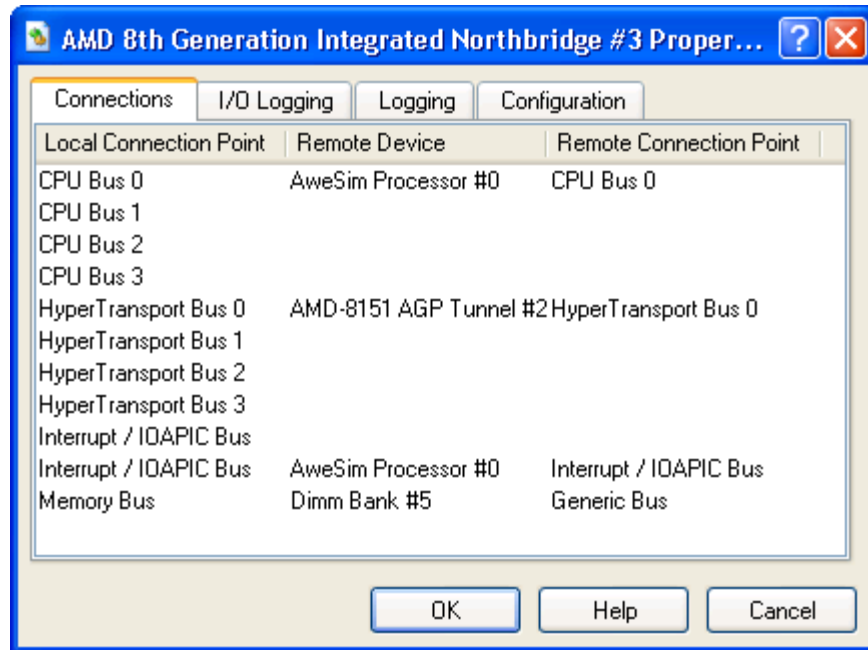

Figure 6-2: Connections Tab of Device Properties Window
7. Connect the AweSim Processor and the AMD 8th Generation Integrated Northbridge by shift-click-dragging from one to the other. When the "Connections" tab of *Device Properties Window* appears (shown in Figure 6-2), choose the CPU Bus 0 for both devices, and click on Ok. The connection appears as a line between the two devices on the *Device Window*. Then create an additional connection between the two devices using the Interrupt/IOAPIC Bus on each device. The *Device Window* shows only one line for the two connections between these devices. You can view the connections for each device by right-clicking on the device and looking at the "Connections" tab in the *Device Properties Window*.